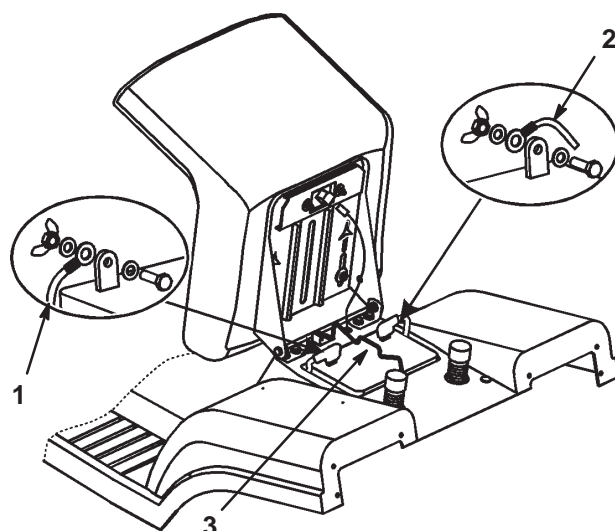

Figure 27
7. Disconnect the negative (black) ground cable from the battery post (Fig. 27).
9. Disconnect the positive (red) cable from the battery post (Fig. 27).
10. Remove the battery hold down rod (Fig. 27).
1. Place the battery into the chassis with the battery posts toward the front of the tractor (Fig. 27).
2. Secure the battery in the chassis with the hold down rod (Fig. 27).
3. Using the bolt and wing nut, connect the positive (red) cable to the positive (+) battery post (Fig. 27). Slide the rubber cover over the battery post.
4. Using the bolt and wing nut, connect the negative (black) cable to the negative (-) battery post (Fig. 27). Slide the rubber cover over the battery post.